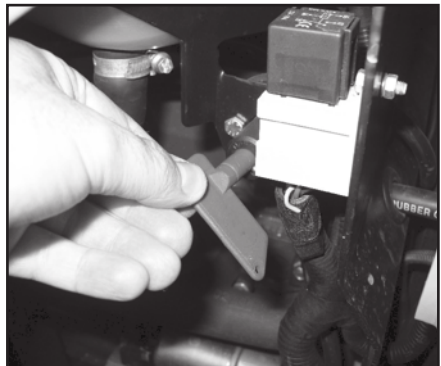

Fig. 5.16.3
- The switch releases and can be removed when turned again in the anti-clockwise direction (Fig. 5.16.3).